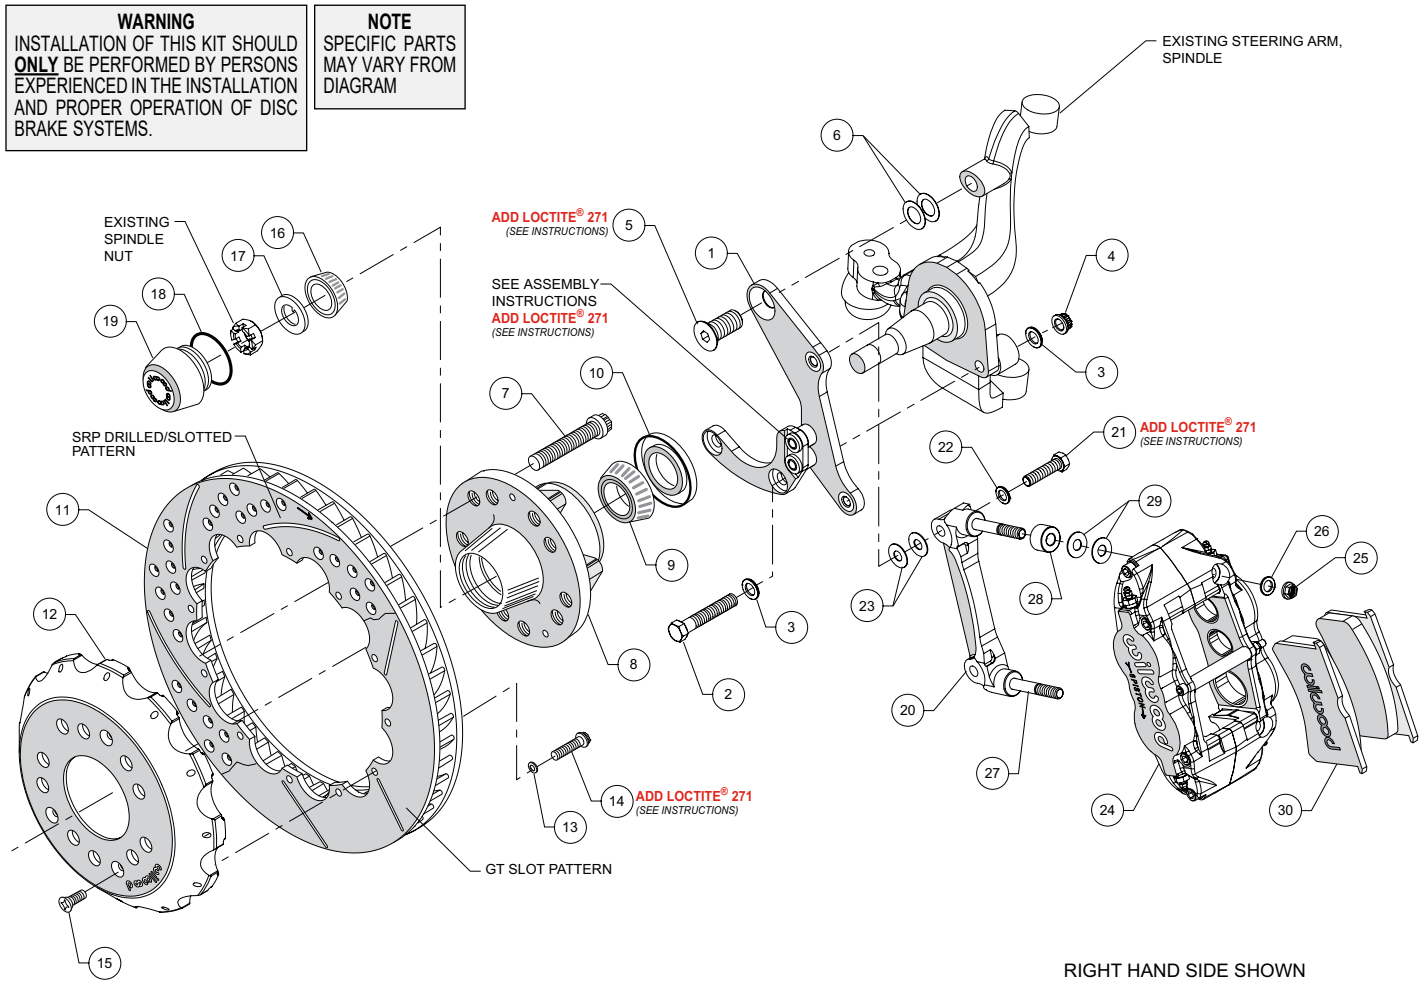
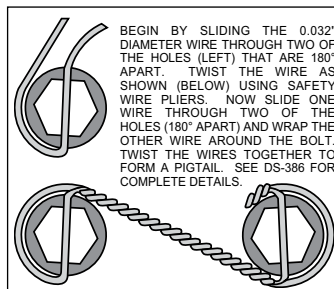

Figure 1. Typical Installation Configuration
Figure 3. Safety Wire Diagram
NOTE: Numbers in parenthesis refer to the parts list and Figure 1 on the preceding pages.
- The spindle bracket (1) has been assembled at the factory for alignment purposes. Loosen the two bolts that secure the brackets together so that the bolts are hand tight only. This will enable the bracket assembly to be adjusted to accommodate various spindle tolerances during assembly. Align bracket with the two lower holes on the spindle face and attach using bolts (2), washers (3), and secure using nuts (4), as shown in Figure 1 and Photo 1. Install bolt (5) through top of bracket while placing shims (6) between bracket and spindle, Figure 1. Initially use two .024" thick shims (6) on the top bolt between the bracket and upright. Temporarily tighten the mounting bolts. Ensure that the flanged heads of the clinch nuts in the bracket are facing outboard, Photo 1. **NOTE:** The bracket must fit squarely against the mounting points on the spindle. Inspect for interference from casting irregularities, machining ridges, burrs, etc. Some spindles may require a small amount of grinding to clear the bracket assembly in the area of the bracket-to-bracket spacers.
- Check that the bracket is aligned parallel to the rotor by assembling and installing the hub/rotor per the step below. If not, adjust by adding or subtracting shims (6) between the spindle and bracket, Figure 1.
- Install wheel studs (7) into the hub (8), Photo 2. Torque to 77 ft-lb. **NOTE:** There are two five lug patterns in the hub (5 x 4.50 and 5 x 4.75). Ensure the correct hub stud pattern is being used to fit the wheel application.
- Pack the large inner bearing cone (9) with high temperature disc brake bearing grease (available from your local auto parts store) and install into the backside of the hub (8), Photo 3.
- Install the grease seal (10) by pressing into the backside of the hub (8), flush with the end of the hub, Photo 3.
- Orient the rotor (11) and the hat (12) as shown in Figure 1 and Photo 4. Attach rotor to hat using bolts (14) and washers (13). Apply red *Loctite*® 271 to the bolt threads and torque to 155 **in-lb** using a criss-cross pattern. For an added measure of security, the bolts may be safety wired using standard 0.032 inch diameter stainless steel safety wire as shown in Figure 3. Refer to Wilwood's data sheet DS-386 (available at www.wilwood.com/Pdf/DataSheets/ds386.pdf) for complete safety wire installation instructions.
- Pack the small outer bearing cone (16) with high temperature disc brake bearing grease and install into hub (8). Slide the hub assembly onto the spindle. Secure using spindle washer (17) and OEM spindle nut, Photo 5. Adjust bearings per OEM specifications. Install saved OEM nut lock (if any) and a new cotter pin (not included).
- Screw dust cap (19) into hub (8), Photo 6. Friction created by the o-ring (18) on the dust cap keeps it from unscrewing. **NOTE:** *The O.D. of the existing OEM spindle washer may be larger than the I.D. of the dust cap not allowing it to seat against the hub face. Therefore, use the spindle washer (17) supplied with the kit instead of the OEM washer.*
- Slide the hat/rotor assembly (11/12) onto the hub (8) taking care to align the small countersunk holes in the hat (12) with the small threaded holes in the hub. **NOTE:** *The hat must fit flush against the hub face or excessive rotor run out may result.* Install three flat head screws (15) through the small holes in the hat, Photo 6, and torque to 85 **in-lb**.
- The caliper mount bracket (20) should initially be installed with clean, dry threads on the mounting bolts. Orient the bracket as shown in Figure 1 and Photo 7, and install using bolts (21) and washers (22). Initially place two .035" thick shims (23) on each bolt between the bracket and the spindle bracket (1), Figure 1. Temporarily tighten the mounting bolts. Later, after the caliper alignment has been checked, the mount bolts will be secured using red *Loctite*® 271.
- NOTE:** *This kit contains distinct right and left hand calipers that must be mounted in a specific direction, as described below.* Initially place two .035" thick shims (29) and one spacer (28) on each stud (27) between the caliper and the bracket, as shown in Figure 1 and Photo 8. Mount the caliper (24) onto the bracket (27) using lock nuts (25) and washers (26), Figure 1. Ensure that the caliper is mounted so the largest pistons are at the rotor exit end of the caliper, in relation to the direction of rotor rotation. Temporarily tighten the lock nuts and view the rotor through the top opening of the caliper. The rotor should be centered in the caliper, Photo 9. If not, adjust by adding or subtracting shims